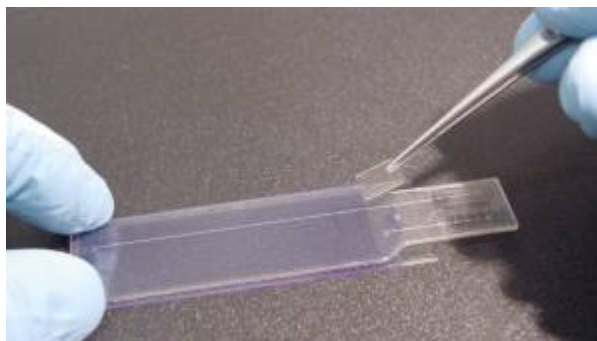

Figure 25: Placing Port Seals
8. Using a pair of forceps, lightly place an adhesive port seal directly over the fill and vent ports. The long edges of the port seals should align with the long edges of the MAUI Mixer and the port seal should be approximately centered over the fill and vent holes. Use a finger on each port seal to press each port seal firmly down. (Figs. 25 to 27)